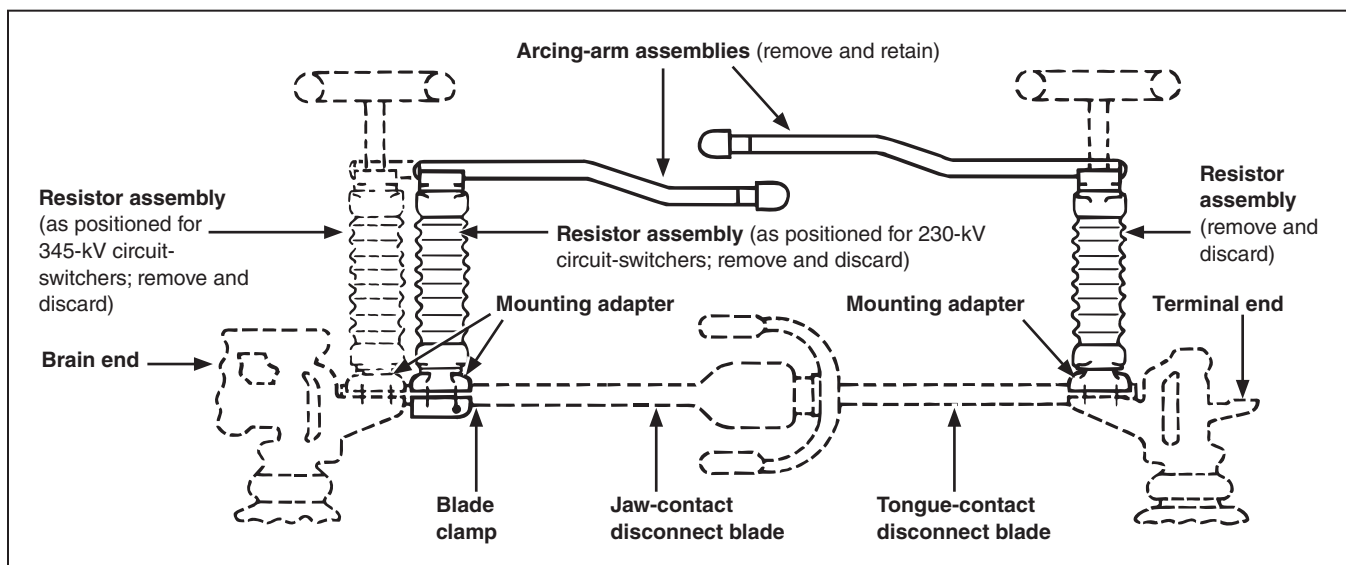

Figure 3. Removal of existing pre-insertion resistors on 230-kV and 345-kV center-break style circuit-switchers.
*For pre-insertion resistors on 230-kV and 345-kV Center-Break Style circuit-switchers, refer to Figure 3 on page 6.*